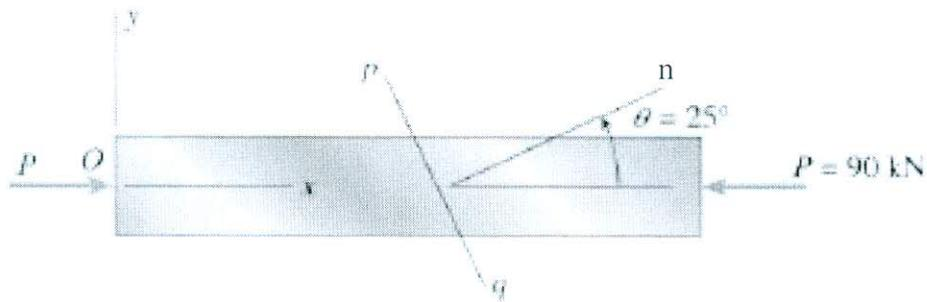

Figure 4
- [b] The bar in Figure 4 is subjected to a compression force $P = -90 \text{ kN}$. The cross-sectional area of the bar is 1200 mm^2 . Estimate the normal stress and shear stress on the p-q face and on the t face of an element oriented at angle $\theta = 25^\circ$.